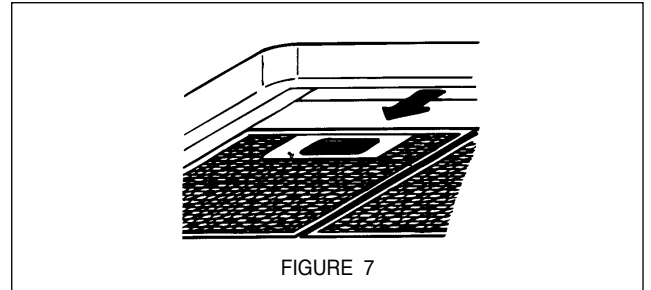

FIGURE 7
2. Remove the grease filters and set aside. The grease filters are removed by pressing the handle in front of the filter as indicated in FIGURE 7. When replacing, make sure the filters are properly positioned with the handles visible in front.